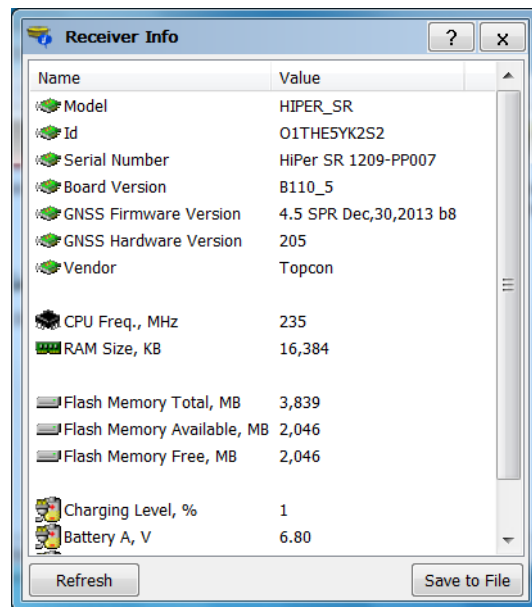

Figure 9: TRU – Receiver Info
6. In the TRU main window, click the **Information** icon. The **Receiver Info** window (Figure 9) appears.